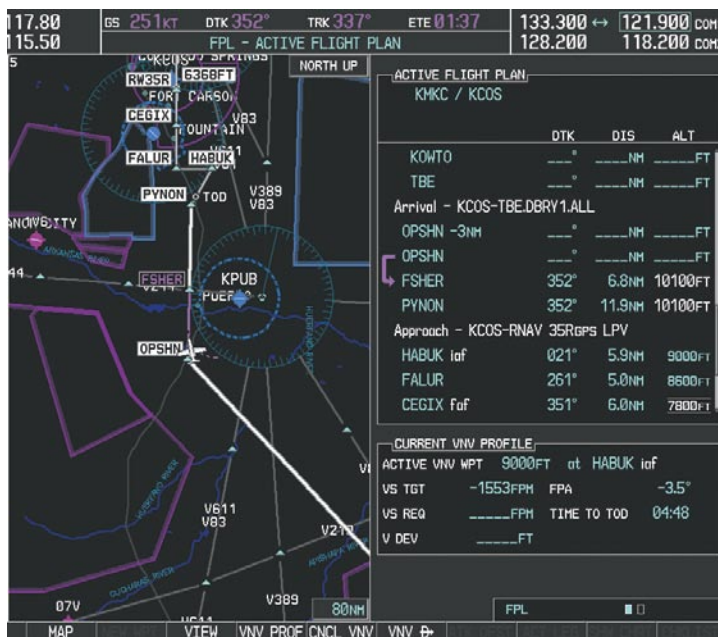

Figure 5-136 Tracking the OPSHN to FSHER Leg
- 19) After passing OPSHN, the next leg of the arrival turns magenta as shown in Figure 5-136. The magenta arrow in the flight plan list now indicates the OPSHN to FSHER leg of the arrival procedure is now active.